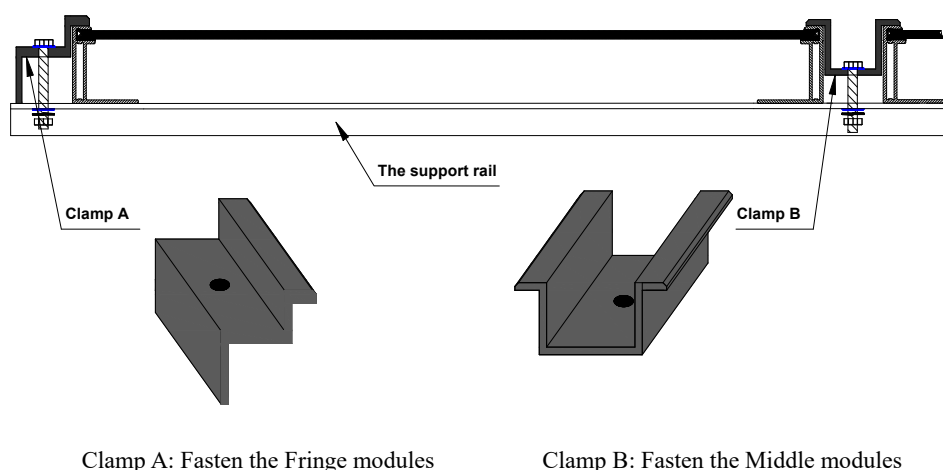

FIG 3 Schematic diagram of module fastened by clamp method
6.3.3.3 Using at least four clamps to fasten each module, two clamps should be fastened on each long side of the module. According to local Environment (depending on wind power and snow loads), additional clamps may be required to ensure modules and PV system to withstand anticipated mechanical pressure. We recommends using the following clamps (as shown in Figure 3), or approved by reputable solar installer or systems integrator.